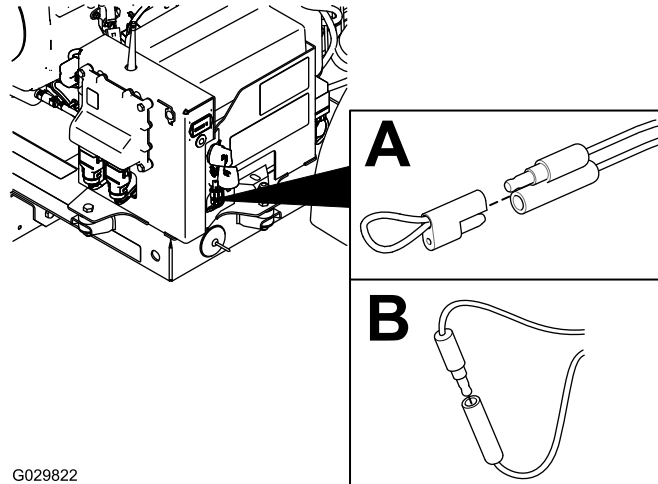

Figure 38
2. Pull the tethered cap off of the 2 diagnostic, shunt connectors (Figure 38, A).
3. Connect the diagnostic, shunt connectors together (Figure 38, B).